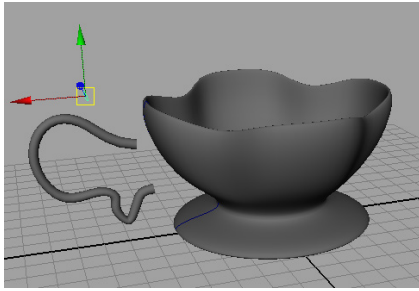

Figure 3-98 The extruded surface displayed
5. Choose the **Four View** button from the Tool Box to switch to four views. Move the cursor to the persp viewport and then press the SPACEBAR key to maximize the persp viewport. Now, first select the circle and then the profile curve. Next, choose **Surfaces > Extrude** from the menubar; the extruded surface is created, refer to Figure 3-98. Next, select the extruded surface. In the **extrude1** tab of the **Attribute Editor**, select **Component Pivot** from the **Use Component Pivot** drop-down list.